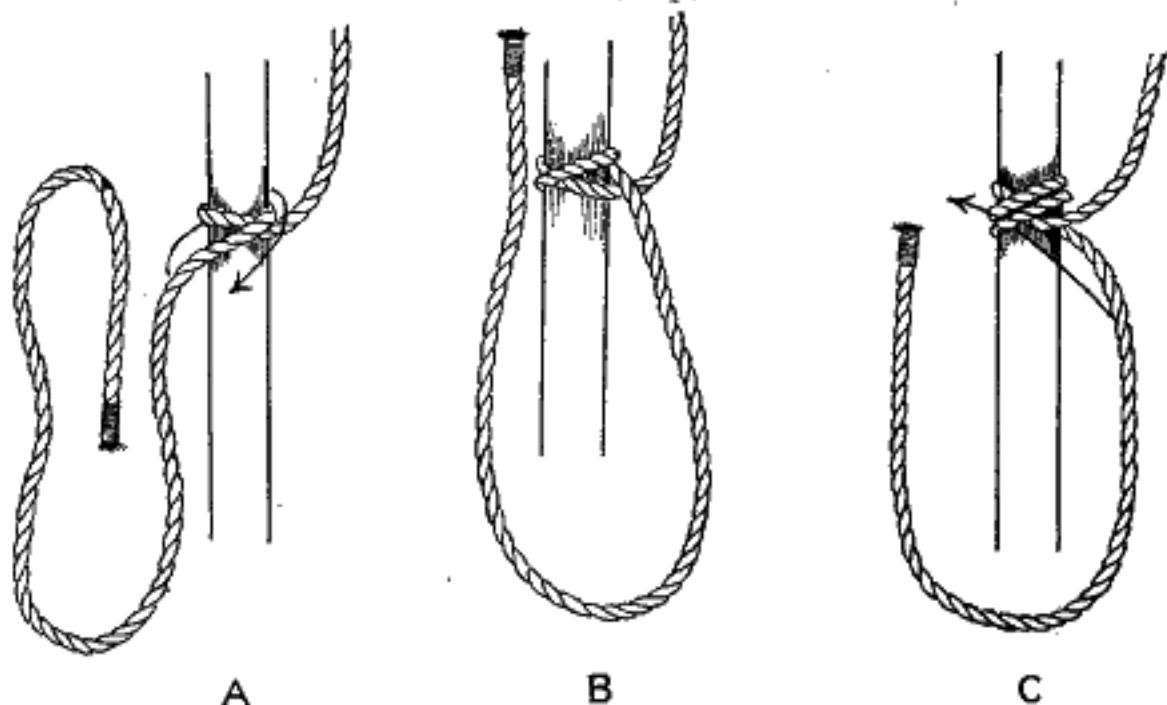

FIG. 345.—The well-pipe hitch.
**405. The well-pipe hitch** (Fig. 345) is made by wrapping the end of the rope around the pipe, making a half hitch. A second wrap is made, wrapping downward and over the standing part. A third wrap is made, this time going under the standing part and up between the last two turns. The hitch is completed by making a clove hitch with the end of the rope. The pull on the standing part of the rope should be parallel with the pipe.